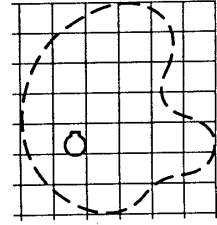

FIGURE 2.42 ■ Step 5, sketched shape using the regular grid.
- Step 5. Then, using the grid, sketch the small irregular arcs and lines that match the lines of the original, as in Figure 2.42.